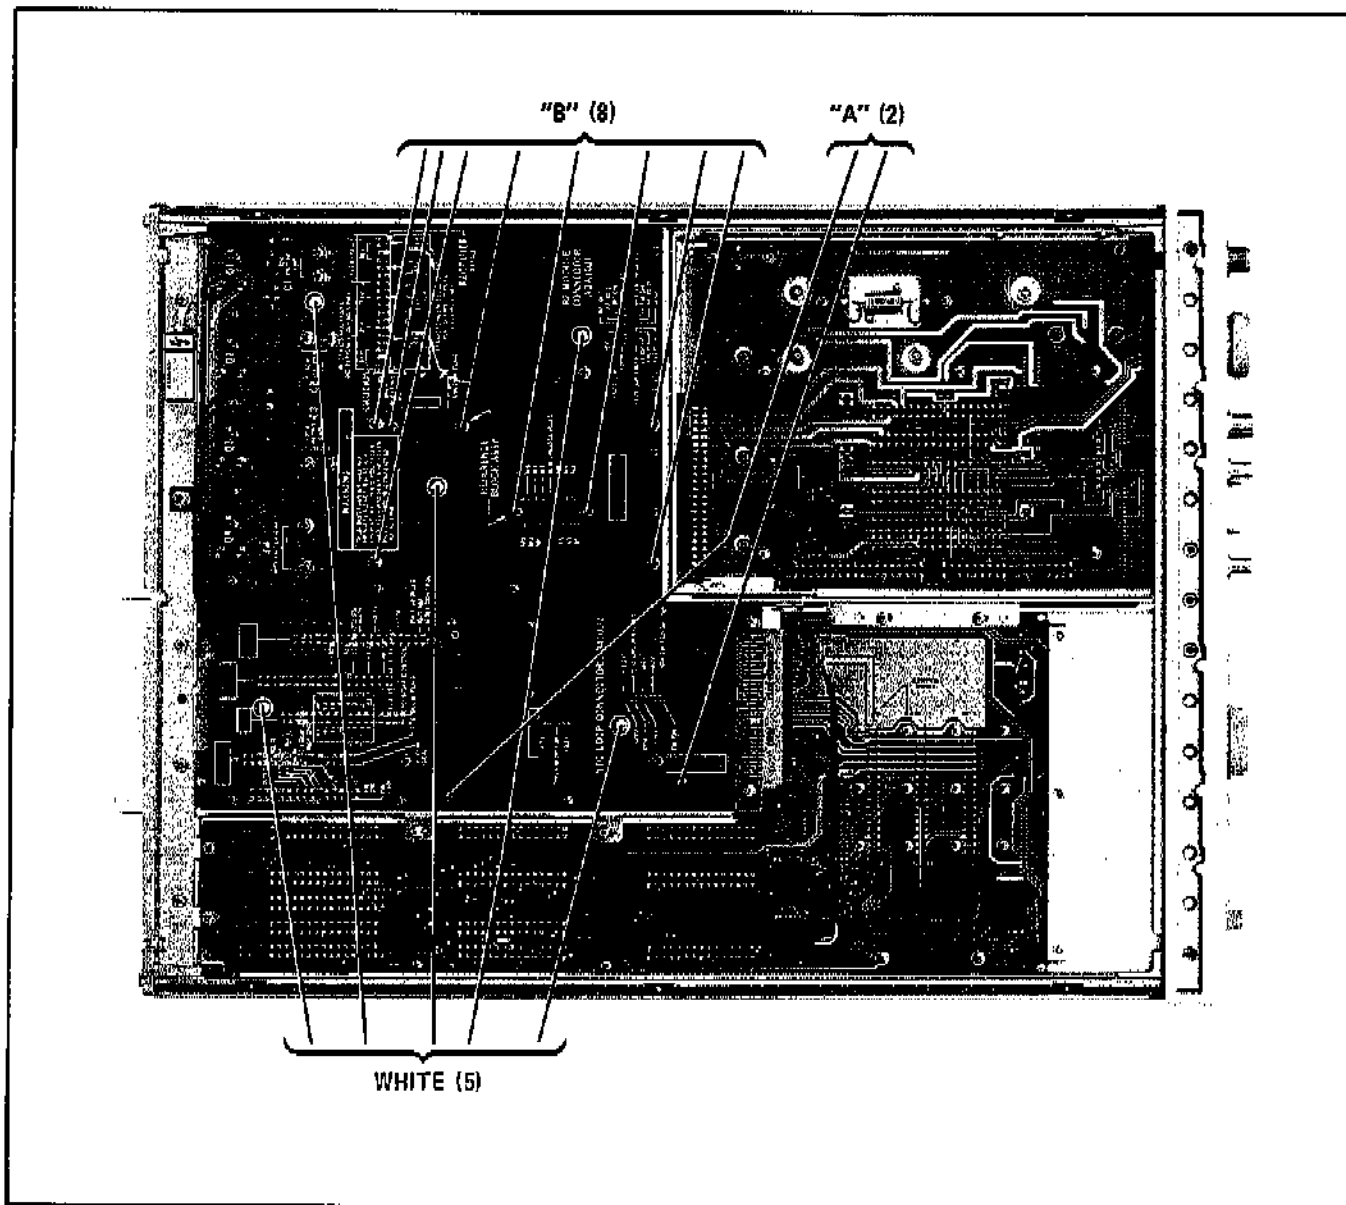

Figure 8-4. Bottom of the Synthesizer
c. Remove the clear plastic protective cover from the bottom of the Synthesizer by removing the five white circled screws (see Figure 8-4).
d. Remove the two Pozidriv screws labeled A from the bottom of the A3A9 Assembly through the Mother Board (see Figure 8-4).